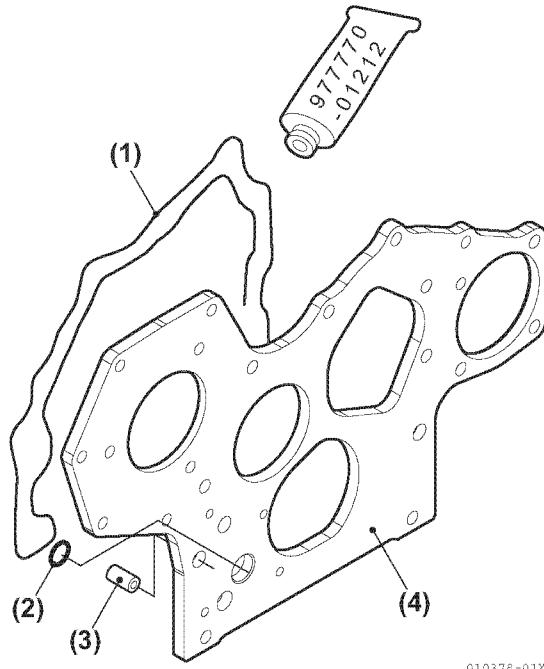

Figure 5-135
12. Apply the liquid gasket to the gear case flange. Mount the gear case and lubricating oil line O-ring to the cylinder block (**Figure 5-135**).
- Coat the O-ring for the cylinder block with lubricating oil and line with grease before installing (**Figure 5-135**).